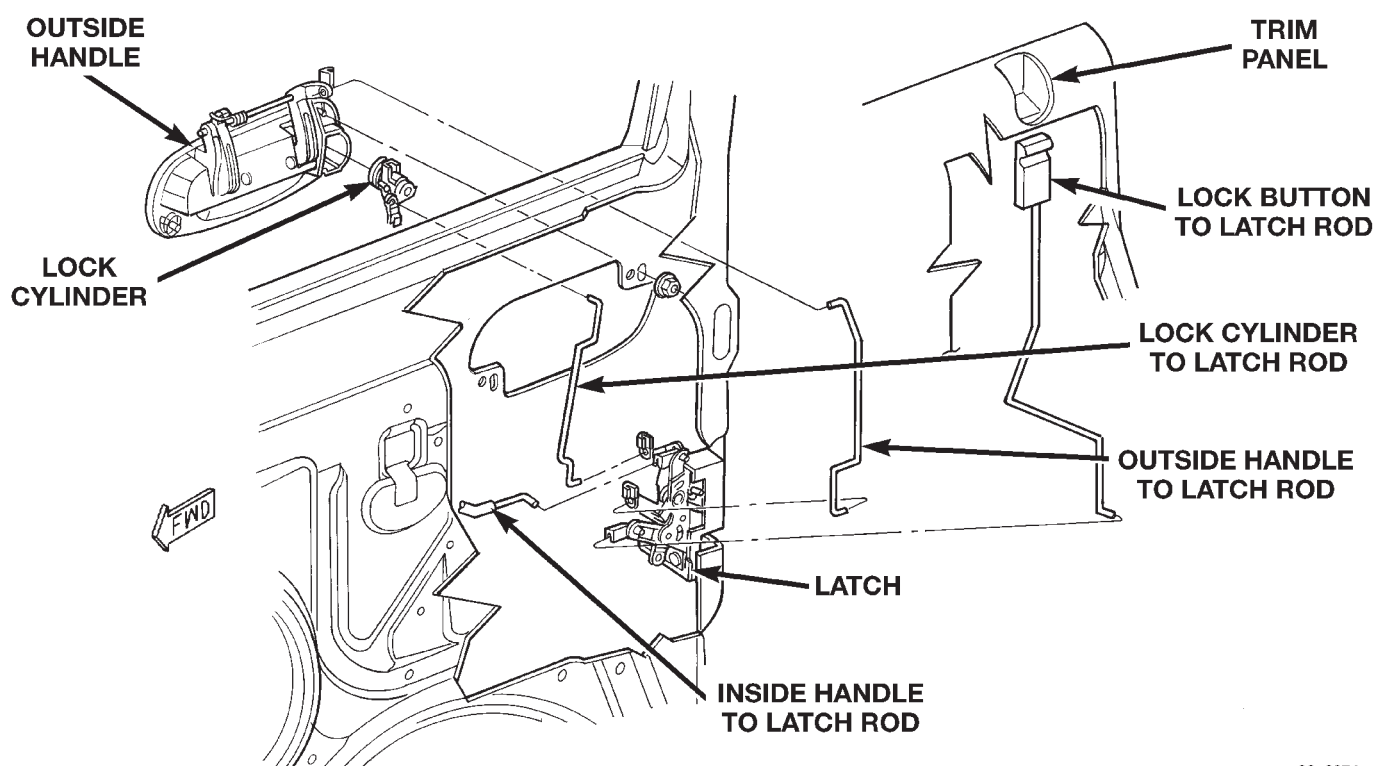
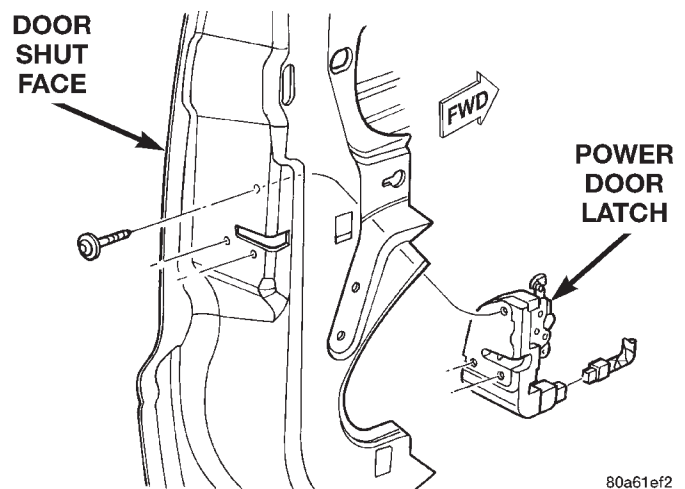

Fig. 29 Outside Door Handle
Fig. 32 Power Door Lock/Latch Connector
- (5) Disengage lock cylinder to latch rod from the latch (Fig. 29).
- (6) Disengage outside handle to latch rod from the latch.
- (7) Remove nuts attaching outside door handle to door.
- (8) Separate outside handle from the door.
- (5) Disengage wire harness connector for power door locks, if equipped (Fig. 32).
- (6) Disengage lock button to latch rod from the latch.
- (7) Disengage lock cylinder to latch rod from the latch (Fig. 29).
- (8) Disengage inside handle to latch rod from the latch.
- (9) Disengage outside handle to latch rod from the latch.
- (10) Separate latch from door.